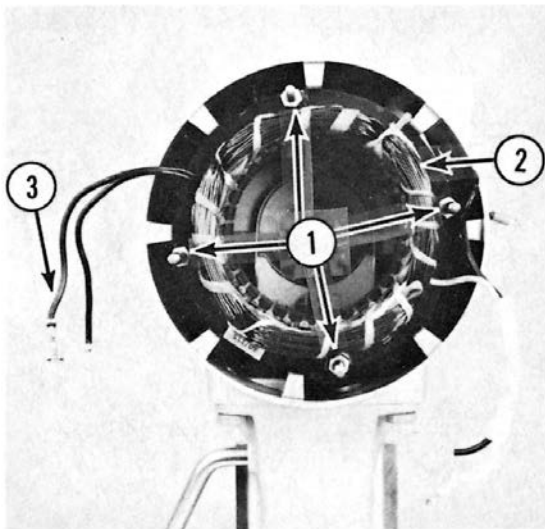

Fig. 4-5
- (2) Disconnect stator lead T4 from the white line cord lead.
- (3) Pull stator lead T1 (connected to the switch) and lead T4 (connected to the line cord in the column) out at the back of the stator.
C. Remove the four hex nuts (1, Fig. 4-5).
D. Pull the stator (2, Fig. 4-5) out of the field ring.
(1) Looking at the rear of the mixer, the motor start switch leads (3, Fig. 4-5) (spade terminals) should be on the left side. The stator leads are located on the right side.
B. Secure the stator with the four hex nuts (1, Fig. 4-5).
(1) Route lead T4 down through the column and connect it to the white line cord lead.
(2) Route lead T1 between the stator and the field ring and connect it to the ON-OFF switch.
(3) Install the base assembly if it was removed.